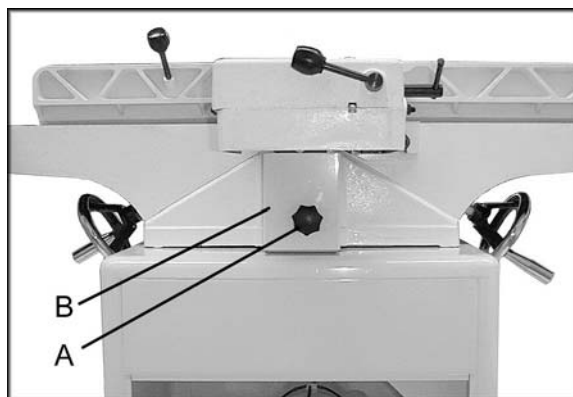

Figure 6
2. Remove the lock knob (A, Fig. 6) and belt guard (B, Fig. 6).